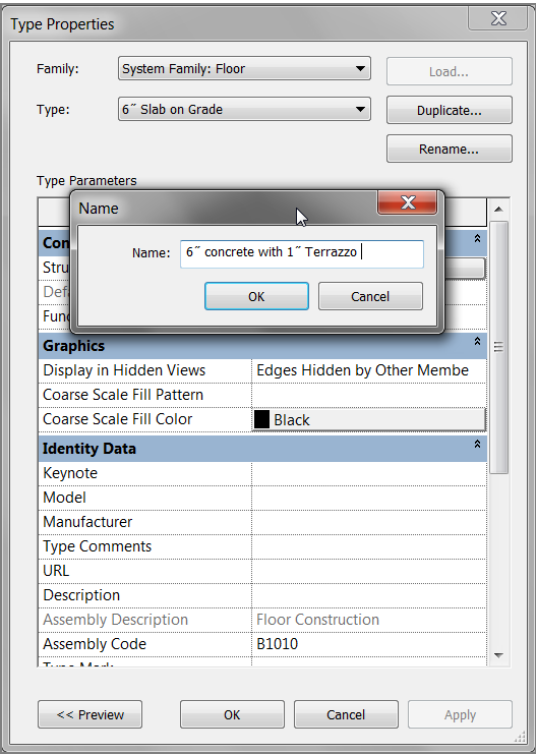

FIGURE 6.19: Duplicating the existing floor
6. Call the new floor **6" concrete with 1" Terrazzo** (see Figure 6.19). For metric users, it's **150mm concrete with 25mm Terrazzo**.